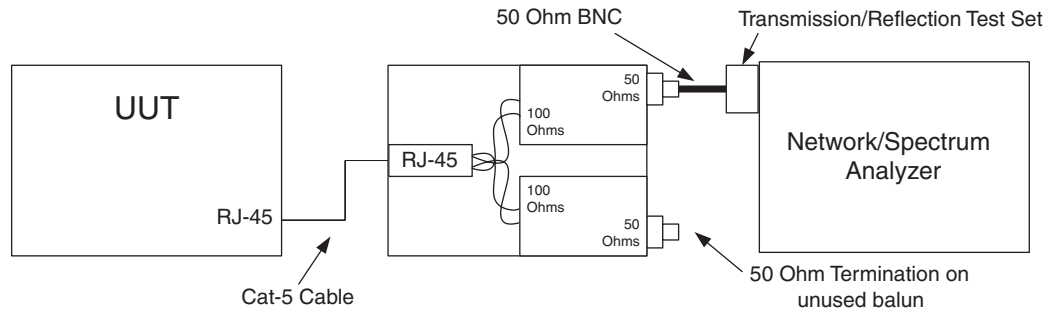

Figure 11-1. Test Setup for 100BASE-TX Transmitter Return Loss
1. Connect the test equipment and UUT as shown in Figure 11-1.